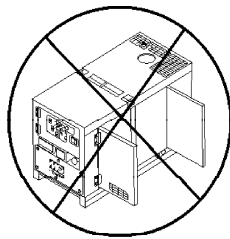

**Figure 19. Battery Connections**
4. Connect the negative battery cable (BLACK) to the negative post on the battery (Figure 19).